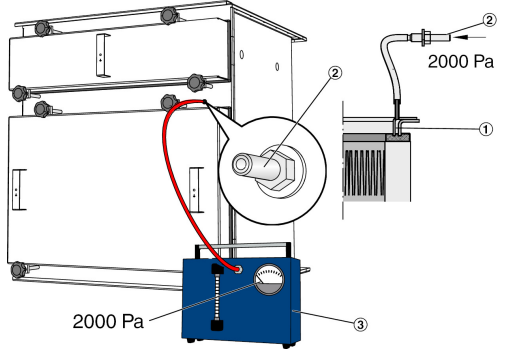

Fig. 15: Sealing integrity test
- 1. ▶ Connect the sealing integrity test device (Fig. 15/3) to the connection point on the filter (Fig. 15/2).
- 2. ▶ Apply at least 2000 Pa to the test groove (Fig. 15/1).